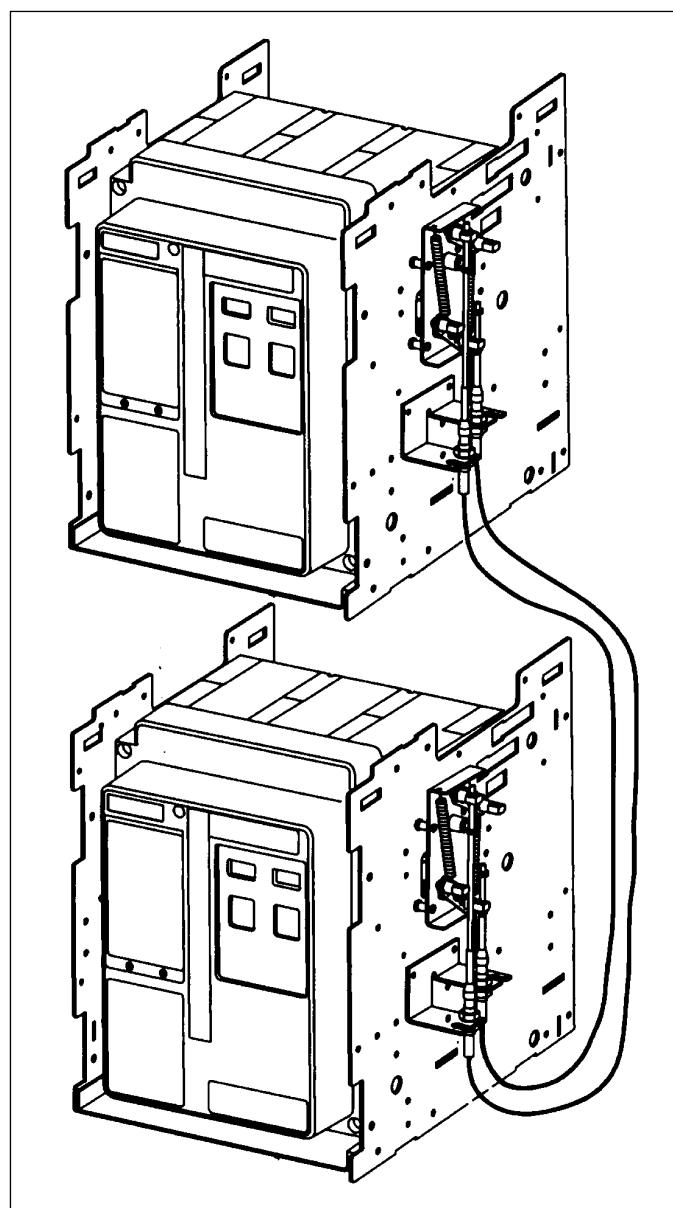

Figure 3-66 Cassette-Mounted 2-Way Cable Interlock
**Mechanical Interlock** - A family of mechanical interlocks are available to interlock the closing of two or three Magnum circuit breakers. The mechanical interlock holds one or more circuit breakers tripped (prevents closure) when others are closed. A lever assembly is mounted on each breaker which interfaces with the pole shaft and the tripper bar. The lever assemblies are interconnected with either cables or rods, depending upon the relative orientation of the breakers. Rods can be used only when the circuit breakers to be interlocked are vertically stacked. Cables can be used for any orientation of the breakers. Mechanical interlocks are available for both fixed and drawout circuit breakers and in both 2-way and 3-way versions. An illustration of a 2-way cable interlock mounted on two drawout circuit breakers is shown in Figure 3-66.